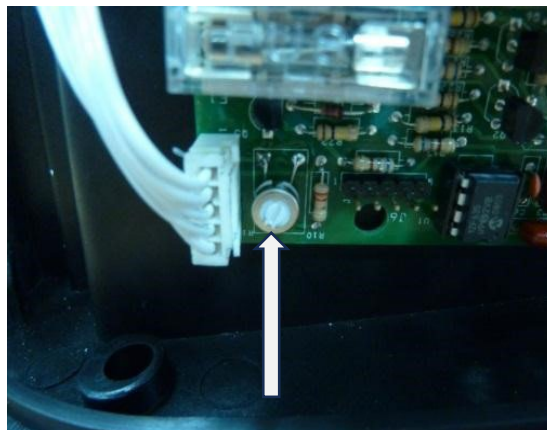

Fig. 3
2. **The dryer runs continuously** – decrease the sensitivity of the activation sensor by turning the white potentiometer on the board located inside the main body of the dryer (see Fig. 3) anti clockwise with a pot adjuster/ small screwdriver. Adjust to suit the level of sensitivity required.